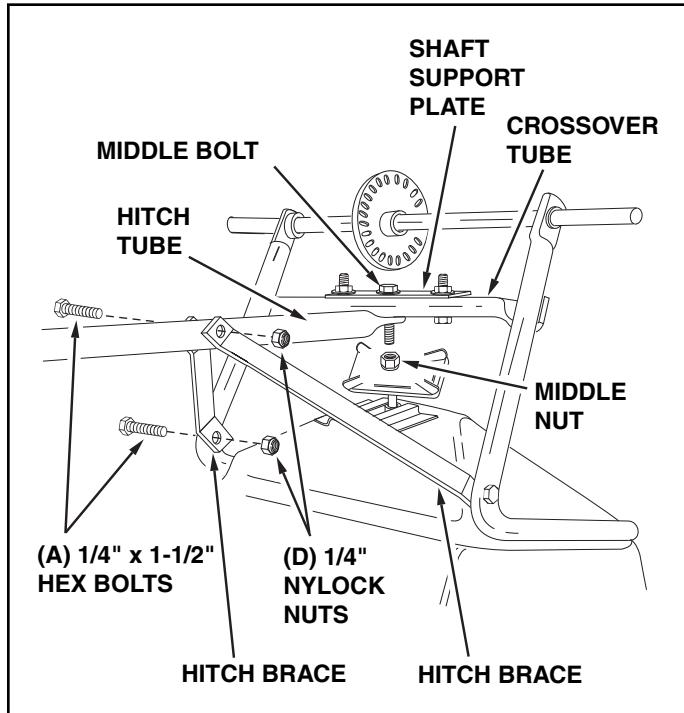

FIGURE 2
2. Assemble the two hitch braces to the inside of the hopper frame, one on each side, using two 1/4" x 1-1/2" hex bolts (A) and two 1/4" nylock nuts (D). **DO NOT TIGHTEN YET.** See figure 2.
3. Remove the nut from the middle bolt in the crossover tube and shaft support plate. Leave the bolt in place. See figure 2.
4. Assemble the hitch tube onto the middle bolt and secure it with the same nut you removed. **DO NOT TIGHTEN YET.** See figure 2.
5. Assemble the two hitch braces to the hitch tube using a 1/4" x 1-1/2" hex bolt (A) and a 1/4" nylock nut(D). **DO NOT TIGHTEN YET.** See figure 2.